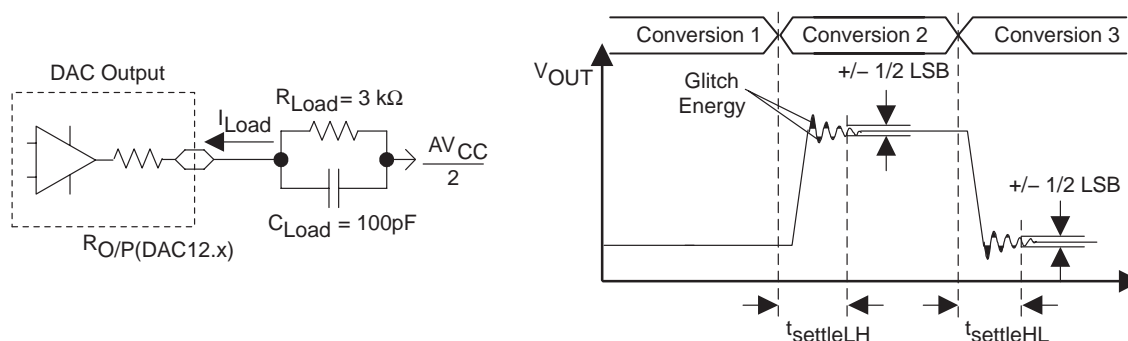
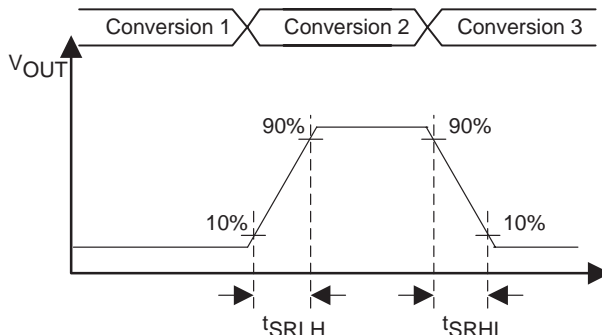

Figure 23. Settling Time and Glitch Energy Testing
Figure 24. Slew Rate Testing
12-bit DAC, dynamic specifications; V_{ref} = V_{CC}, DAC12IR = 1 (see Figure 23 and Figure 24)
- NOTES: 1. R_{Load} and C_{Load} connected to AV_{SS} (not AV_{CC}/2) in Figure 23.